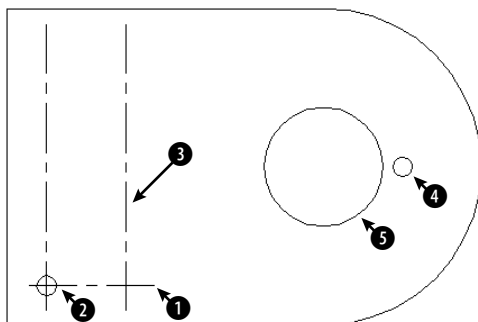

Figure 10-6: A partially completed mounting bracket.
2. Save the file as `ab10-02.dwg` in your AutoCAD Bible folder. It looks like Figure 10-6. OSNAP should be on. Set center and intersection running object snaps.
4. Click the Select Objects button of the Array dialog box. In the drawing, pick the horizontal centerline **1** in Figure 10-6 and then press Enter. You return to the dialog box.
10. Click the Select Objects button in the Array dialog box. In the drawing, pick circle **2** in Figure 10-6 and then press Enter.
12. Click the Pick Both Offsets button. In the drawing, pick the center of circle **2** and the intersection of centerlines near **3** in Figure 10-6. (You can also pick the intersection of centerlines at the center of circle **2**. If necessary, press Tab until you see the object snap that you want.)
14. To create a six-hole bolt circle, pick hole ④ in Figure 10-6.
17.  Next to the Center Point text boxes, click the Pick Center Point button. In the drawing, pick the center of the large circle at ⑤ in Figure 10-6.